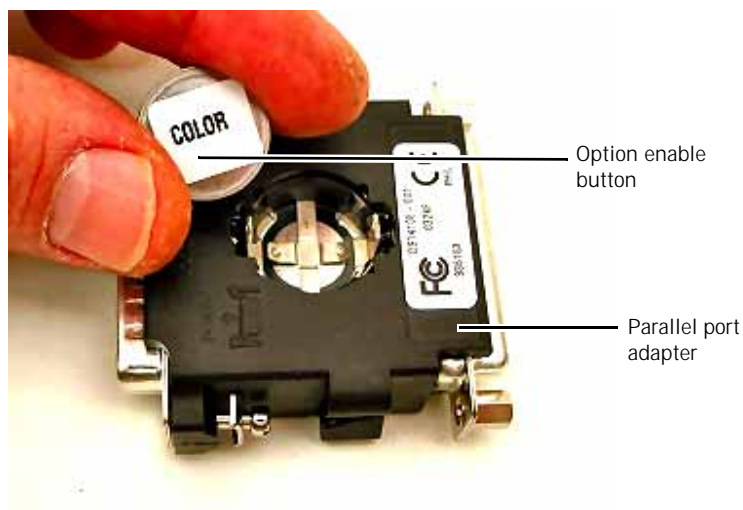

Figure 7-5: Parallel Port Adapter and Option Enable Button
1. Insert the option button (label side up) into the parallel port adapter (Figure 7-5), then plug the adapter into the parallel port on the ventilator back panel.